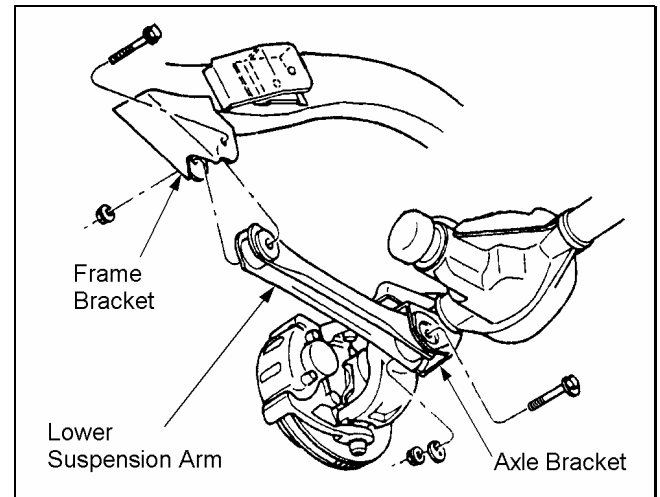

Figure 5
4) ☐ Remove the nut, cam, and cam bolt from the axle bracket. Remove the nut and bolt from the frame bracket. Remove the lower suspension arm. See Figure 5.